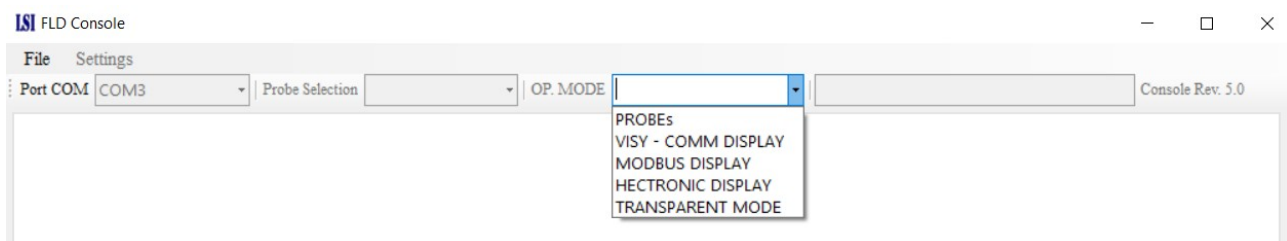

Figure 12 - COM port and operating mode selection
- Select the COM port of the FLD board (for example, in Figure 12 the COM associated with the FLD board is COM53);